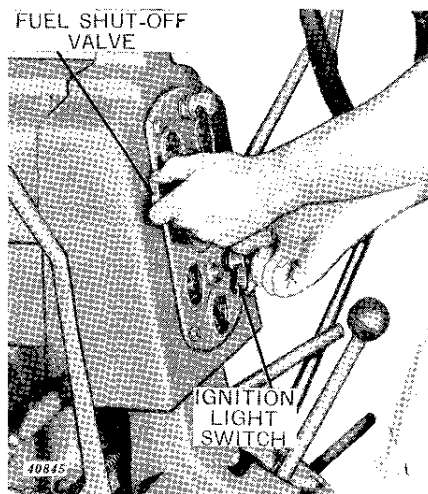

Figure 10-10-1—Operating Fuel Shut-Off Valve and Ignition Switch
- (1) Open fuel shut-off valve two or three turns by turning it counter-clockwise.
- (2) See that cranking engine throttle lever is to the right in "idle" position.
- (3) Turn ignition-light switch to "I" position (Figure 10-10-1).